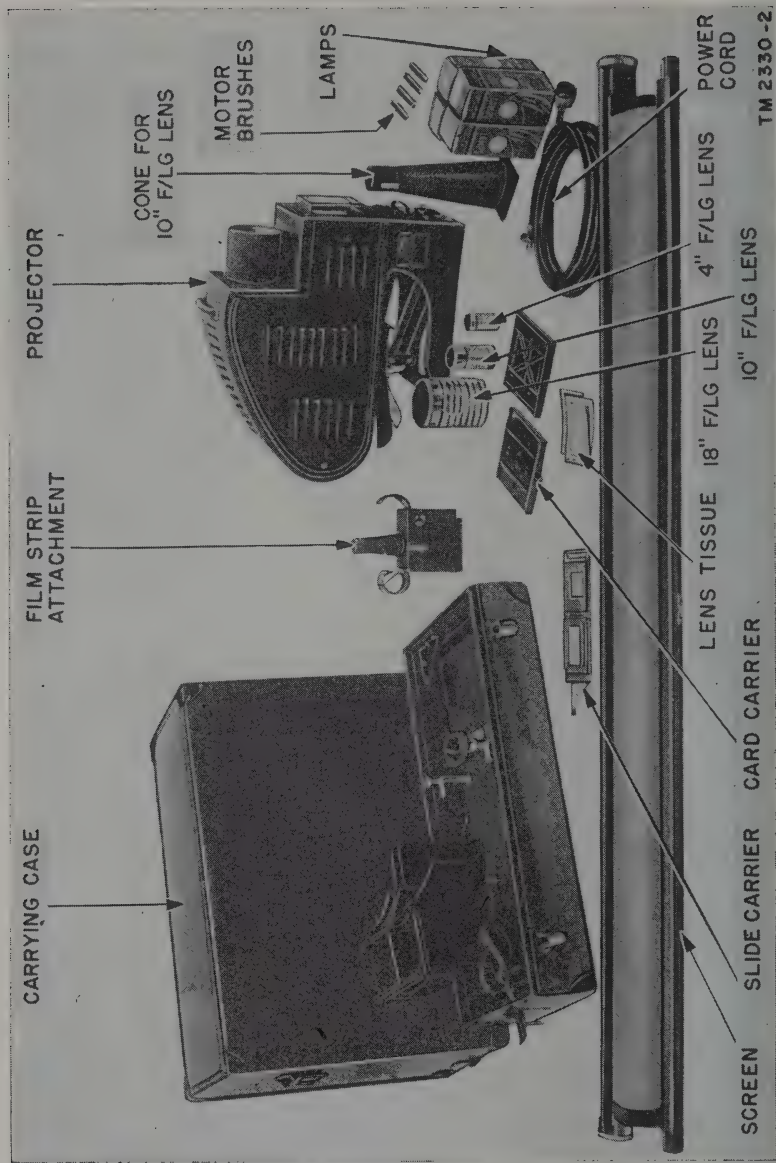

Figure 2. Components of Projection Equipment PH-132-C.
3. Table of Components (fig. 2)
4. Projector Carrying Case (fig. 2)
9. Slide Carrier (fig. 2)
10. Card Carrier (fig. 2)
11. Power Cord (fig. 2)
12. Lenses (fig. 2)
13. Screen (fig. 2)